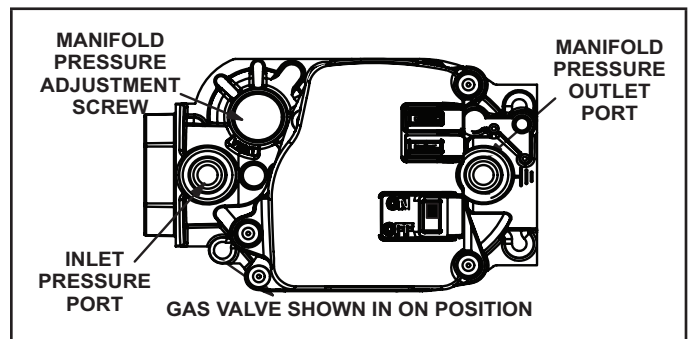

Figure 66
Gas Valve Operation Figure 66
- 6 - Move gas valve switch to OFF. See Figure 66.
- 8 - Move gas valve switch to ON. See Figure 66.
When testing supply gas pressure, use the 1/8" N.P.T. plugged tap or pressure post located on the gas valve to facilitate test gauge connection. See Figure 66. Check gas line pressure with unit firing at maximum rate. Low pressure may result in erratic operation or underfire. High pressure can result in permanent damage to gas valve or overfire.